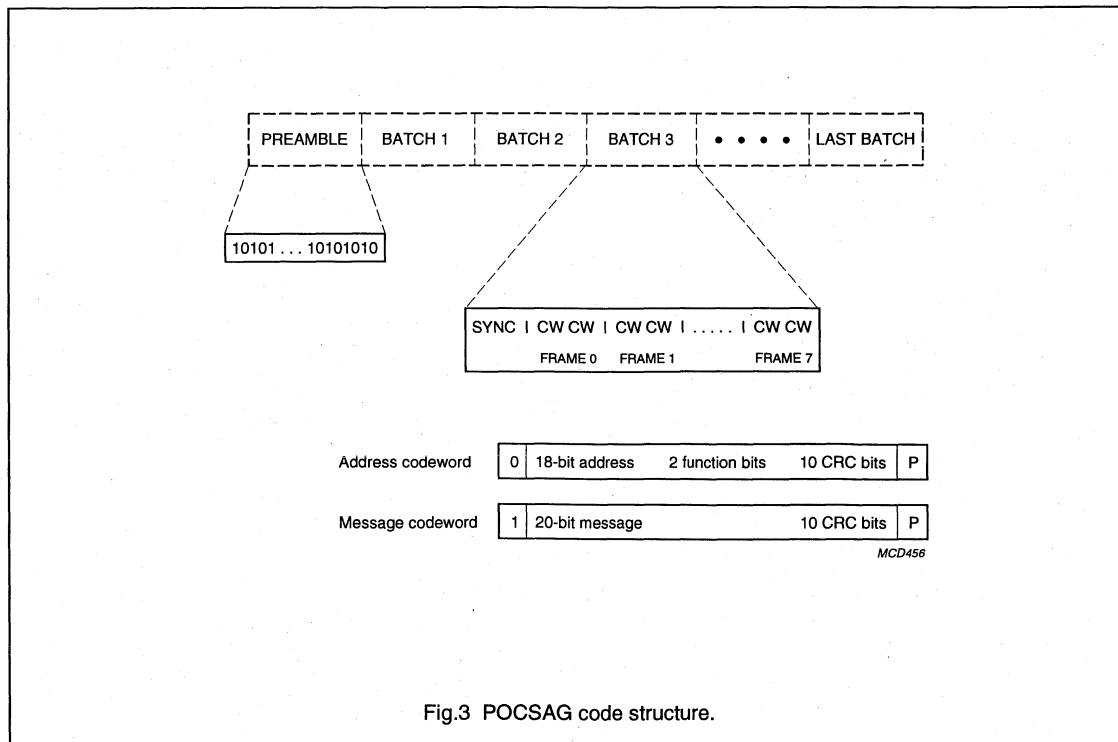

Fig.3 POCSAG code structure.
A transmission using the "CCIR Radio paging Code No. 1" (POCSAG code) is constructed in accordance with the following rules (see Fig.3).
**Address** codewords are identified by an MSB of logic 0 and are coded as shown in Fig.3. A user address or RIC consists of 21 bits. Only the upper 18 bits are encoded in the address codeword (bits 2 to 19).
**Message** codewords are identified by an MSB of logic 1 and are coded as shown in Fig.3. The message information is stored in a 20-bit field (bits 2 to 21). The data format is determined by the call type: 4 bits per digit for numeric messages and 7 bits per (ASCII) character for alphanumeric messages.